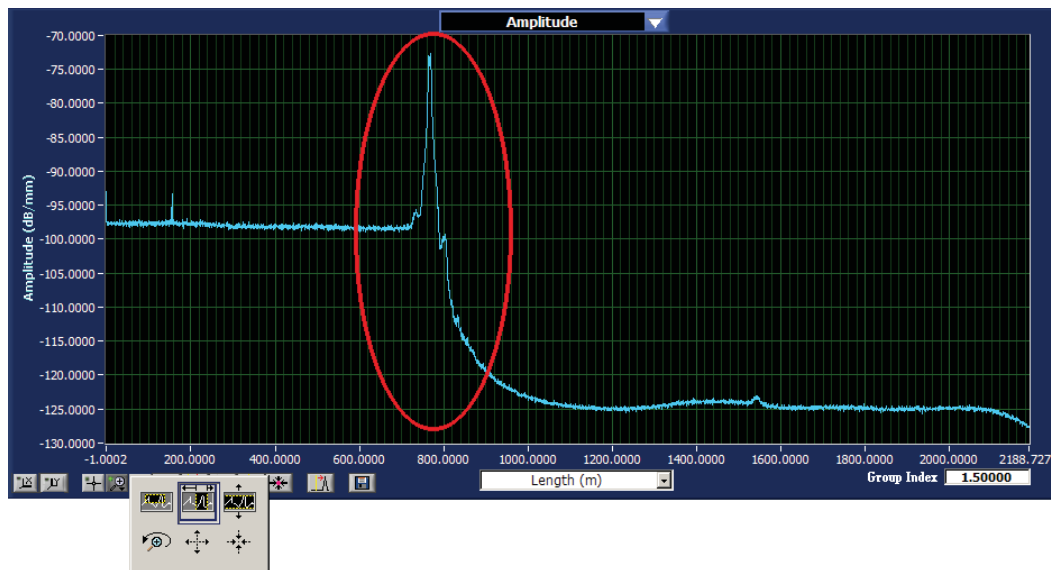

Figure 7: Amplitude plot showing sharp rise and fall to noise floor due to fiber termination
- g) After a ~30 sec acquisition and processing time, a trace characterizing the DUT will appear on the top graph. The end of the DUT length is characterized by a sharp rise in reflection due to the termination of the fiber, followed by a drop to the noise floor, as is illustrated below in Figure 7.